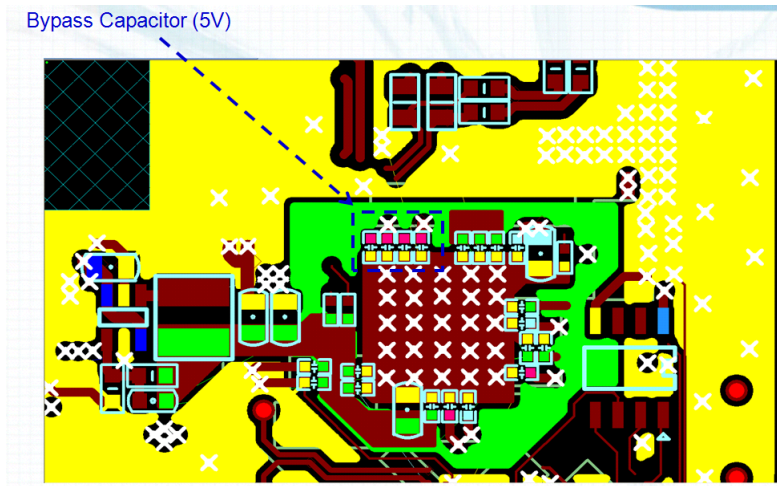

Figure 3.11: Layout for Bypass Capacitor.
- For MT3301 pin 58,59,62 and 63 it is recommended to follow the layout topology as shown in Figure 3.11.